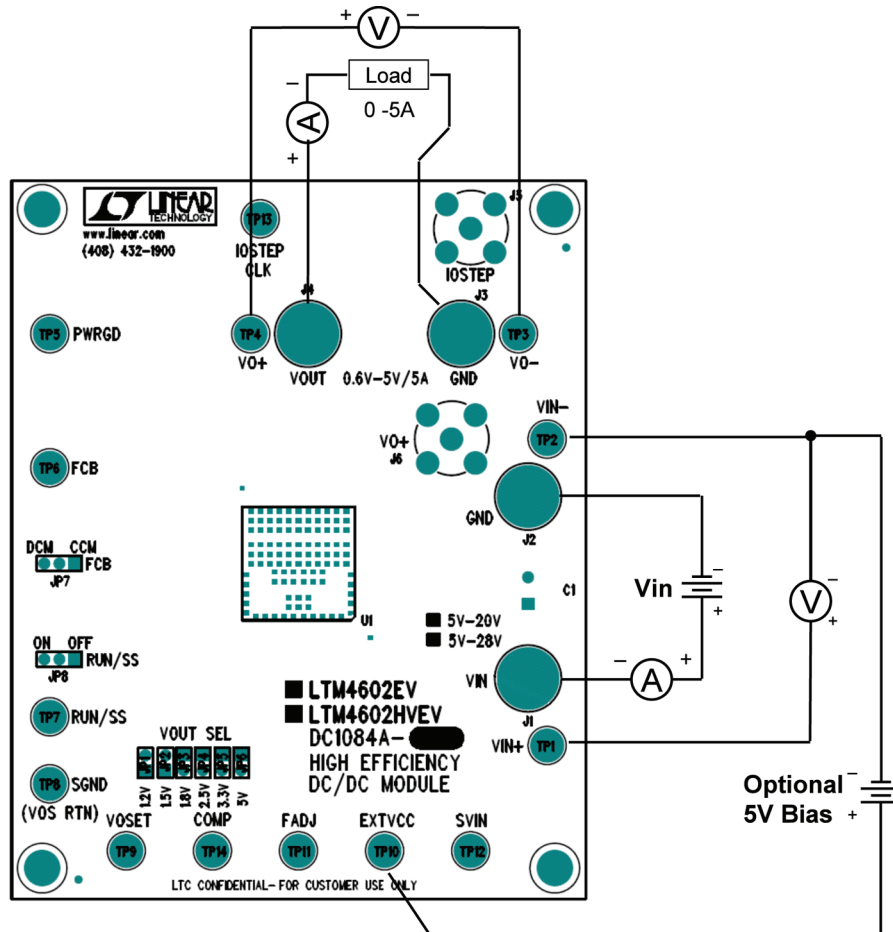

Figure 1. Test Setup of DC1084A-B (EXTVCC Bias Supply is Optional)
Demonstration circuit DC1084A-B is an easy way to evaluate the performance of the LTM4602HVEV. Please refer to Figure 1 for proper measurement equipment setup and follow the procedure below:
2. With power off, preset the load to 0A and V_{IN} supply to be less than 28V. Connect the input power supply, load, optional 5V bias supply and meters as shown in Figure 1. The optional 5V bias supply must be off anytime the supply to VIN is turned off.